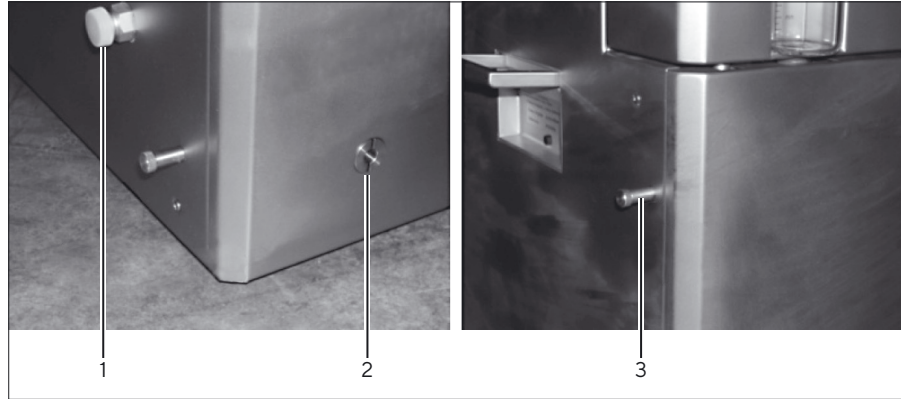

Fig. 10: Cryopilot A HTF Drain Valve and Sealing Screws
- ▶ Ensure that the drain valve is closed by turning clockwise to the vertical position and closing the lower sealing screw on the side of the Cryopilot A as shown in Figure 10.